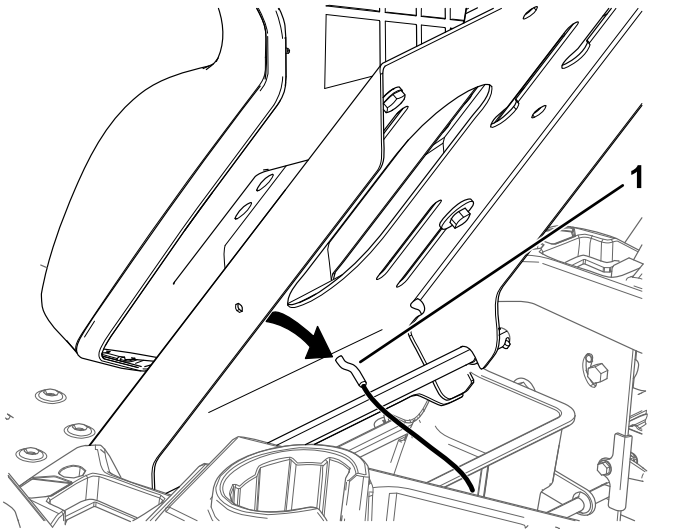

Figure 1
1. Tilt the seat up as shown in Figure 1.
2. Unhook the tilt cable from the seat pan (Figure 1).